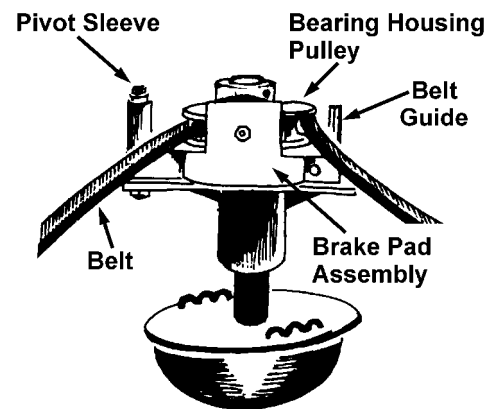

Figure 46
4. Mount the belt around the bearing housing pulley (*Figure 40*). Be sure the belt is placed on the **INSIDE** of the belt guides (*Figure 46*) and that the other end of the belt goes through the belt retainer and around the engine pulley. Also, be sure the belt is on the **INSIDE** of the idler pulley #1 (*Figure 44*).
1. Remove the old belt. Take the new belt and loop it over the bearing housing pulley and in between the pivot sleeve and belt guide (*Figure 46*).